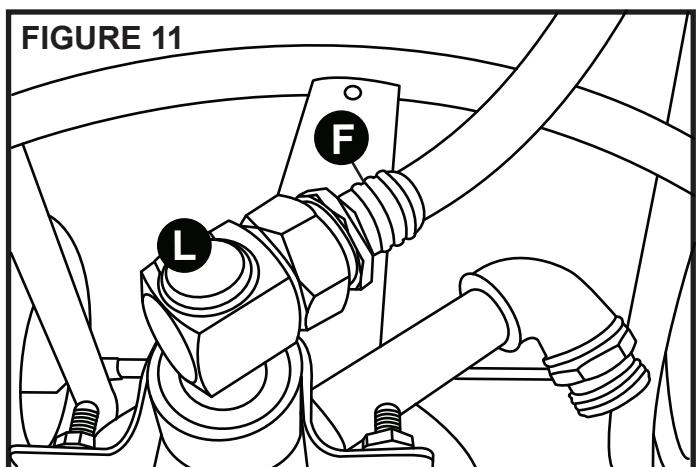

FIGURE 11
11. Attach the leader hose (F) to the brass fitting (L). **See Figure 11**